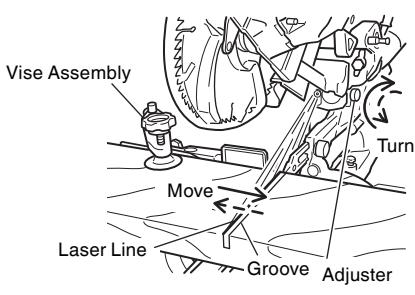

Fig. 20
- (1) Light up the laser marker and make a groove of about 3/16" (5mm) deep on the workpiece that is about 25/32" (20mm) in height and 5-29/32"(150mm) in width. Hold the grooved workpiece by vise as it is and do not move it. For grooving work, refer to "11. Groove cutting procedures" on page 22.
- (2) Then, turn the adjuster and shift the laser line. (If you turn the adjuster clockwise, the laser line will shift to the right and if you turn it counterclockwise, the laser line will shift to the left.) When you work with the ink line aligned with the left side of the saw blade, align the laser line with the left end of the groove. (Fig. 20) When you align it with the right side of the saw blade, align the laser line with the right side of the groove.